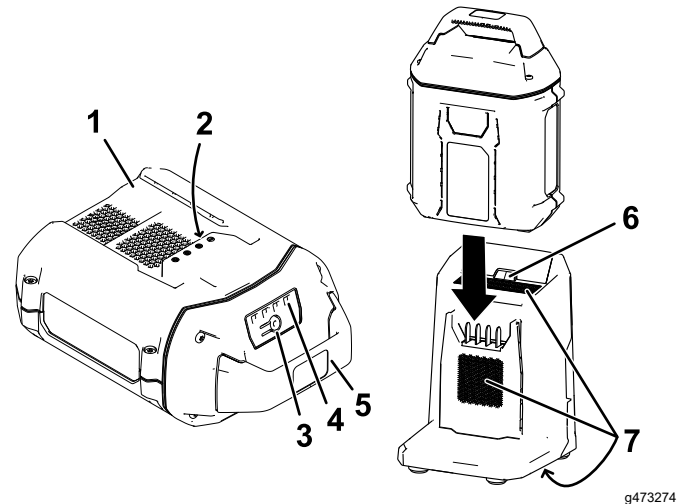

Figure 23
2. Line up the cavity in the battery pack (Figure 23) with the tongue on the charger.
3. Slide the battery pack into the charger until it is fully seated (Figure 23).